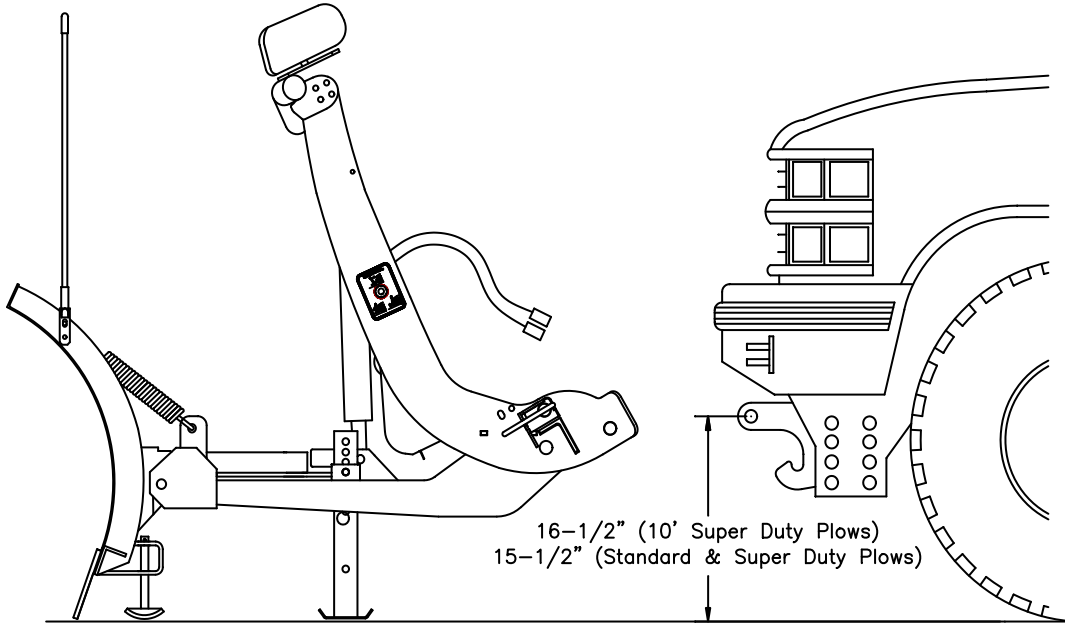

Figure 2
2. Fasten PUSH BEAM (62) to PUSH BEAM SUPPORT PLATES (62A & 62B) using eight ½-13x1-1/2 GR5 Hex Head Bolts (C) and eight ½-13 Self Locking Nuts (D) provided. Again, leave all fasteners only finger tight.
NOTE: The proper height adjustment for PUSH BEAM (62) is 15-½" from the ground to the center of PUSH BEAM pin-receiving hole (See Figure 2).